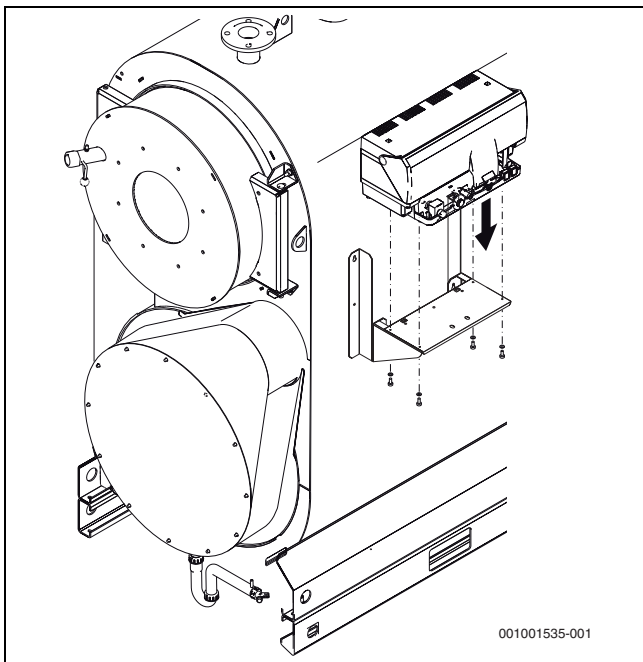

Fig. 25 Installing the control unit
- Secure the control unit cover hood by tightening the screws (→ fig. 25, page 26).